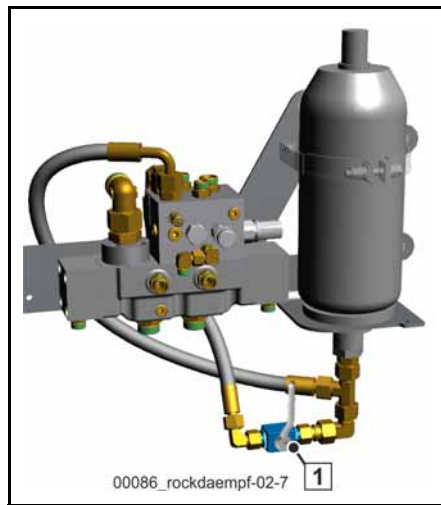

Fig. 543 Rock valve damping
- Move the ball valve (1) (**Fig. 543**) into a vertical position in order to enable Soft-Shift function a).